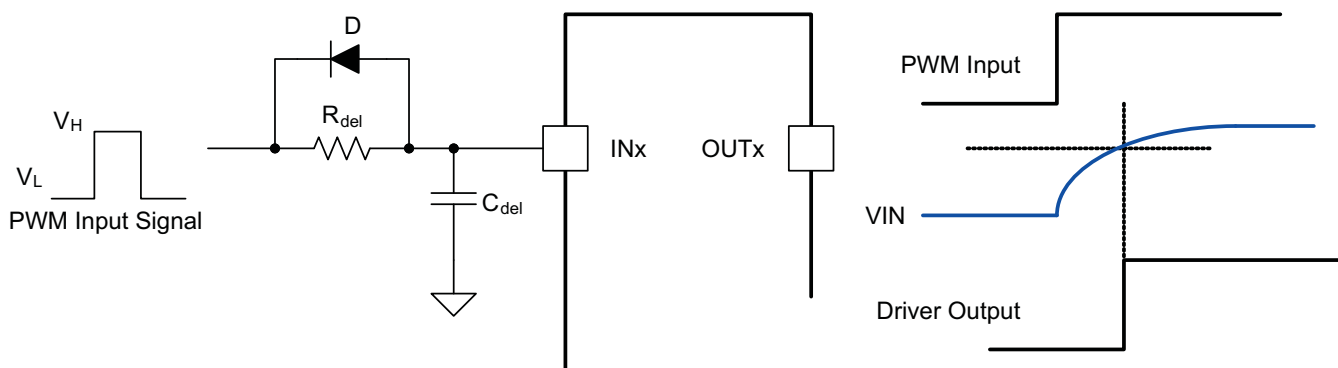

Figure 24. Using RCD Circuits
- Ability to accept slow dV/dt input signals, which allows designers to use RCD circuits on the input pin to program propagation delays in the application, as shown in Figure 24.